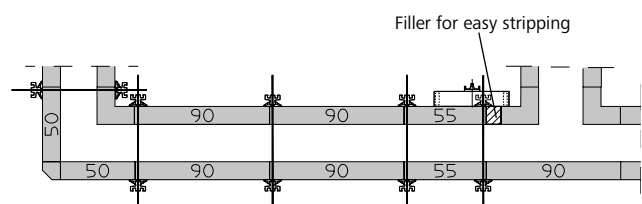

Fig. 5.3
- Walls of less than 6 m require a filler for easy stripping (Fig. 5.3), as the formwork may otherwise become wedged and stick to the concrete when it is stripped.